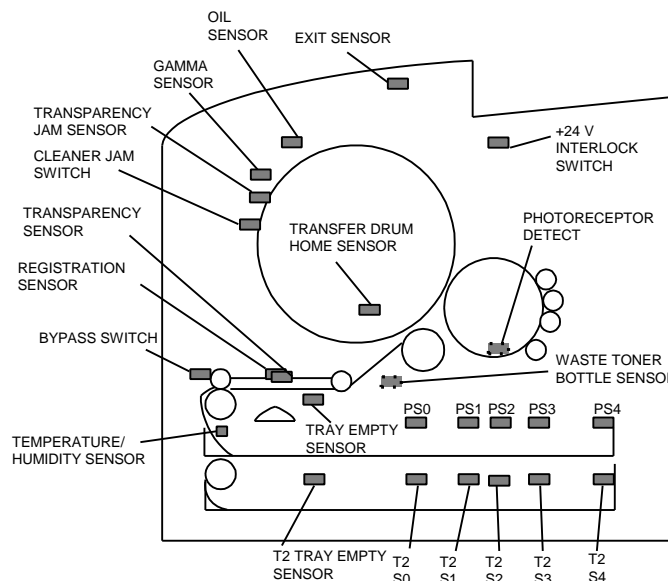

Figure 2-1. Input Component Location
2. Figure 2-1 on the right is also located in Section 6 and shows the location of the input electrical components in the printer. It is especially helpful when using the Switch Scan program. Refer to this figure if you are unsure of input component location. The BSDs in Section 7 may also prove helpful when locating the various electrical components.